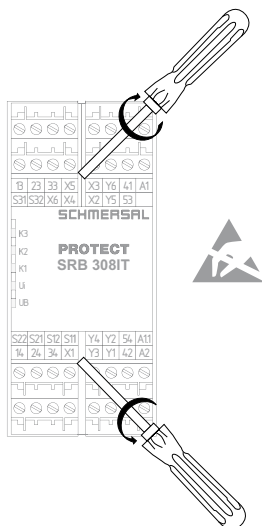

Fig. 2
Opening the front cover (see Fig. 2)
**Dual-channel control, shown for a guard door monitor with two position switches where one has a positive break contact; with external reset button  $\text{\textcircled{R}}$  (Fig. 2)**